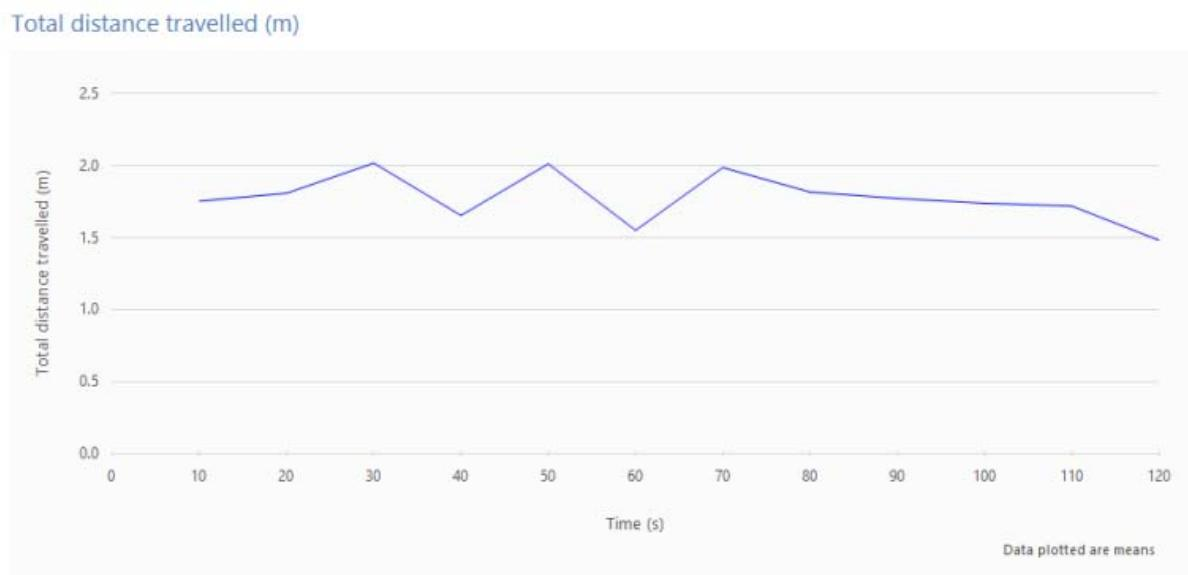

Figure 1. Example of the distance travelled plotted across time using a 10 second time segment duration.
- as is shown in figure 1, below.